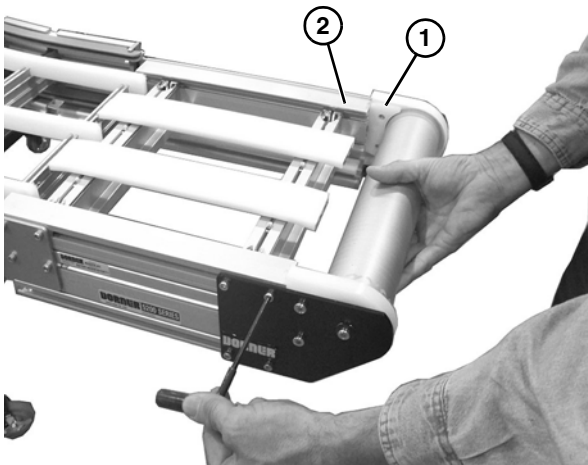

Figure 39
When reinstalling the idler spindle tail assembly, the idler terminal assembly (**Figure 39, item 1**) should be flush with the conveyor frame (**Figure 39, item 2**).